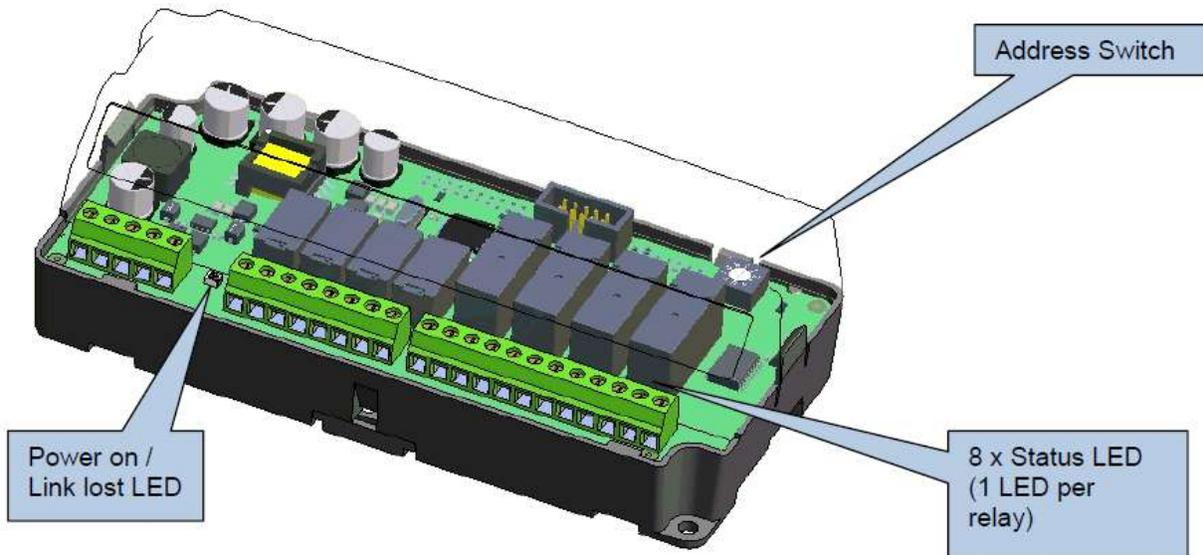

Figure 45 - DSE2157 Controls and Indications
18. Scroll down and click on the “Event Log” option. This will load the current event log saved on the LSE8600 controller. See Figure 45 - Event Log Screen below.